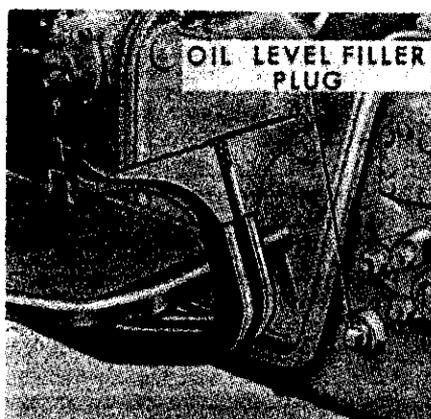

Fig. 225—View showing location of transmission oil level-filler plug on models 2000, 3000 and 4000.
Recommended fluid is Ford Specification No. M2C41-A transmission and hydraulic oil. Capacity is 13¼ quarts for model 4000 and model 3000 with heat exchanger, 12 quarts for models 2000 and 3000 without heat exchanger. Fluid should be maintained to bottom of oil level plug (See Fig. 225). Add oil through oil level plug openings.
**233. FLUID LEVEL CHECK.** Before an attempt is made to start or service the tractor, first check the transmission fluid level. To check fluid level, remove pipe plug (See Fig. 225) located on right side of transmission housing. Fluid level should be even with bottom of plug opening with tractor standing level. If fluid level is below bottom of plug opening, add fluid as necessary through the opening. Recommended fluid is Ford M2C41-A transmission and hydraulic oil.